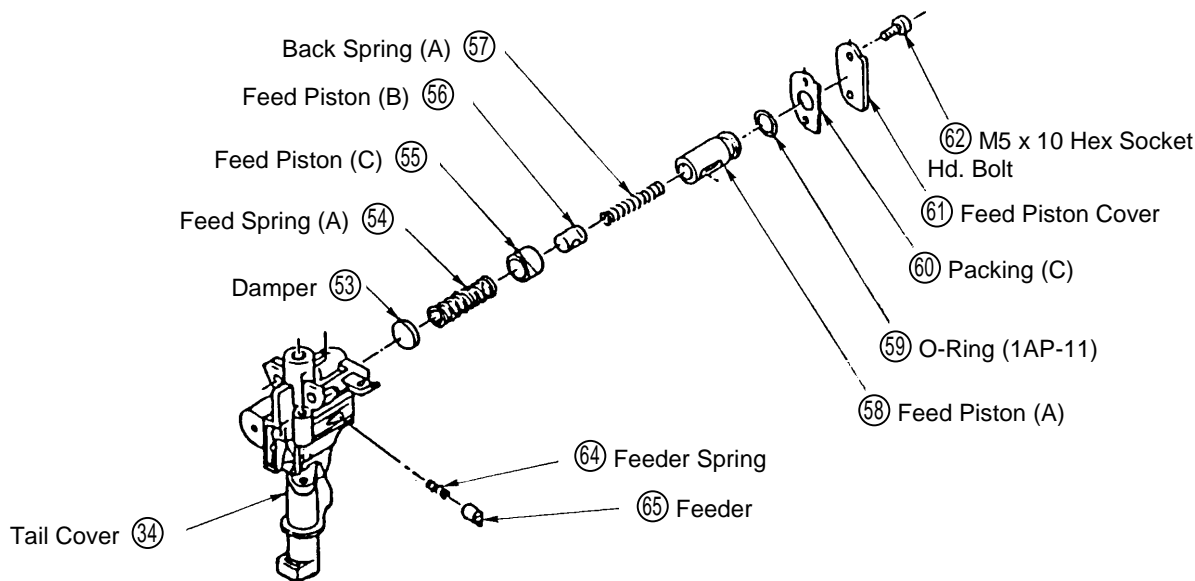

Fig. 21 Disassembly and Reassembly of Feed Piston and Related Parts
(a) Disassembly: (Refer to Fig. 21)
- Be very careful to ensure that the Damper ⑤③, Feed Piston (C) ⑤⑤, Feed Piston (B) ⑤⑥ and Feed Piston (A) ⑤⑧ are assembled in the proper direction. (Refer to Fig. 21)